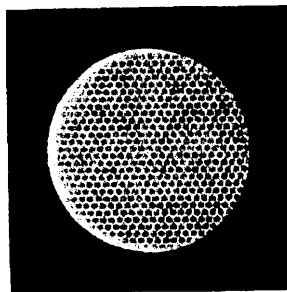

Figure 3-10. Fixed-Pattern Noise.
g. Fixed-Pattern Noise (Honeycomb). This is usually a cosmetic blemish characterized by a faint hexagonal pattern (see Figure 3-10) throughout the viewing area that most often occurs at high-light levels or when viewing very bright lights. This pattern can be seen in every image intensifier if the light level is high enough. This condition is acceptable as long as you can resolve the resolution targets at the low- and high-light levels.